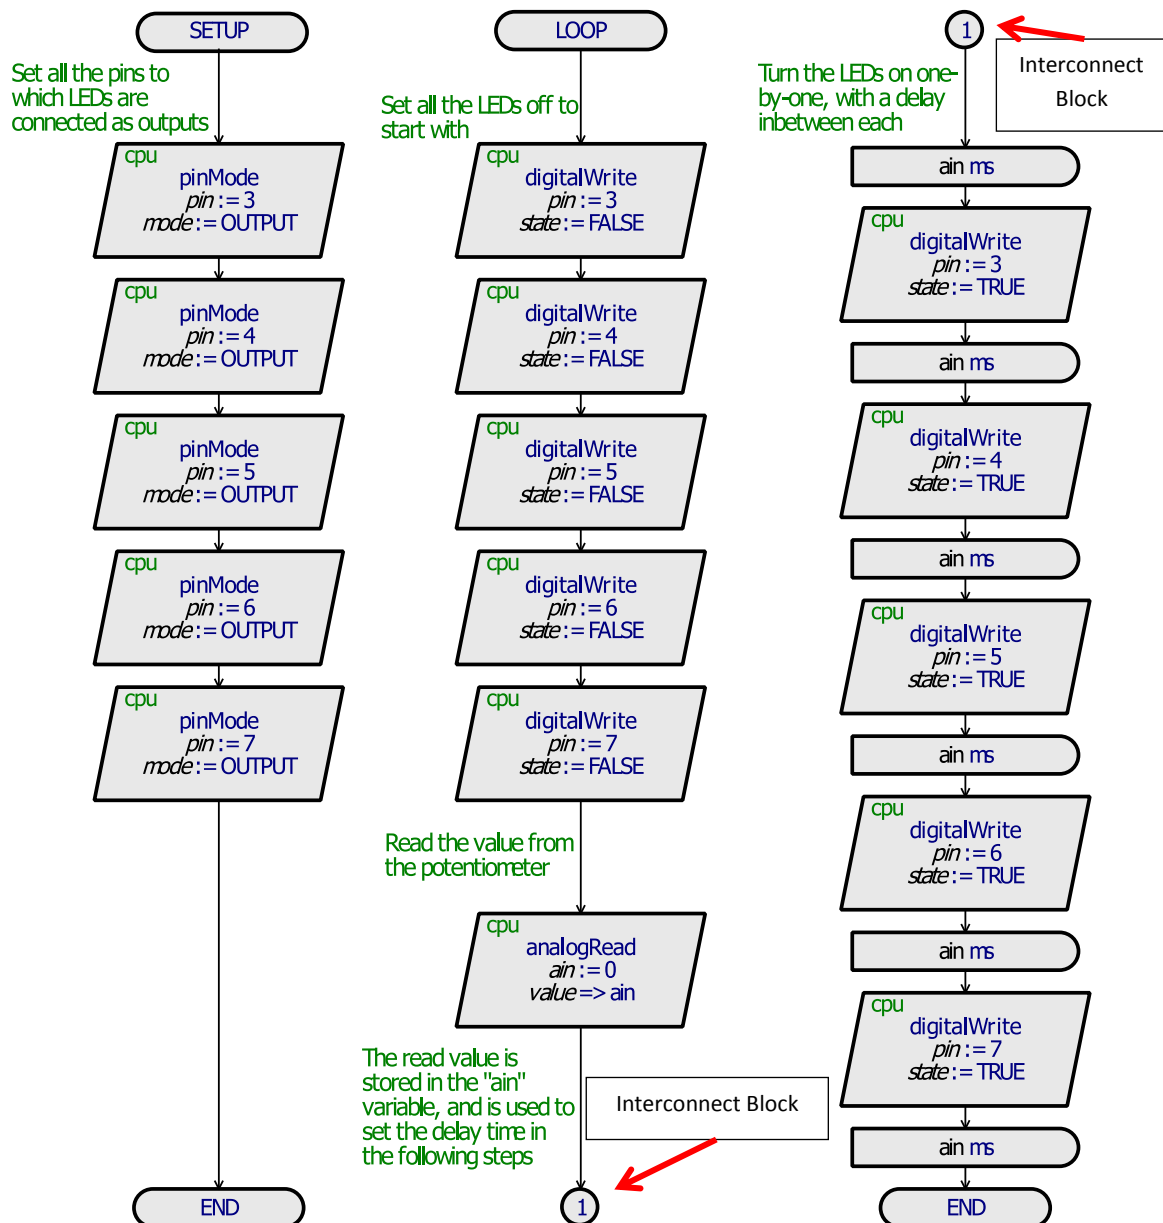

Figure 7-10: Sequencing LEDs flowchart
Figure 7-10 depicts the flowchart program for this project. Don’t worry about drawing the flowchart just yet, we will get around to that shortly; for now, let’s just study it to see how it works:
We will now proceed to constructing our flowchart so that it matches the one in Figure 7-10.
1. Drag 5 x pinMode methods / blocks from the cpu peripheral into the flowchart, placing them in the Setup routine. Set the “pin” and “mode” arguments of the blocks so that they set pins 3 to 7 as outputs (as per Figure 7-10). Remember that the arguments of a block can be changed by right-clicking on the block, and then selecting “Edit” from the popup menu.
Once done ensure that your flowchart looks functionally like Figure 7-10 (remembering that comment blocks, for example, do not affect the function of the flowchart), but do not run the simulation just yet.
Once the flowchart has been completed as per Figure 7-10, and optionally Active Popup regions added, the “Play” button (blue triangle in the bottom-left corner of the screen) can be pressed to test the simulation. You should see the LEDs flashing in sequence, and changing the setting on the potentiometer (using the arrows, or by clicking on it) should change the speed (rate) of the flashing. If anything doesn’t work as expected, then it is recommended to go through this chapter again to check if anything has been missed or set incorrectly.